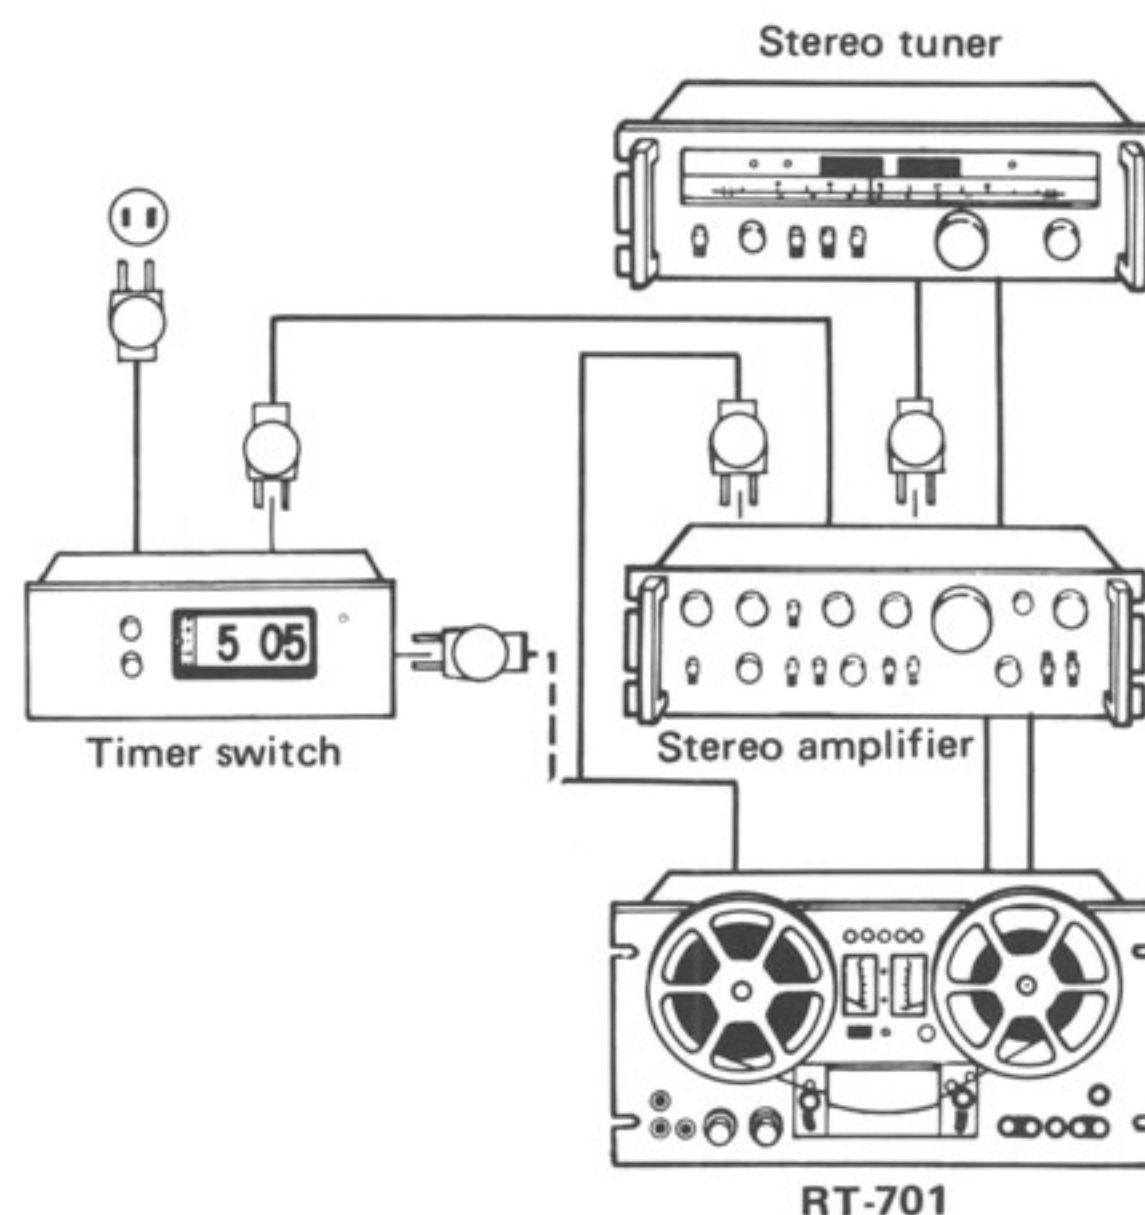

Fig. 18
1. As shown in Fig. 18, connect the RT-701's power cable to the Time switch. Also, plug the power cables of the stereo amplifier and tuner into the timer so that their ON-OFF functions are controlled by the timer.